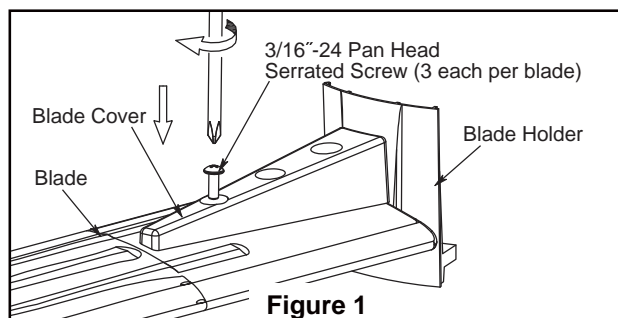

Figure 1
- 1. Remove the six screws in the support bracket at the bottom of the motor assembly. Assemble the light plate assembly to the support bracket using the previously removed screws. (Figure 1)